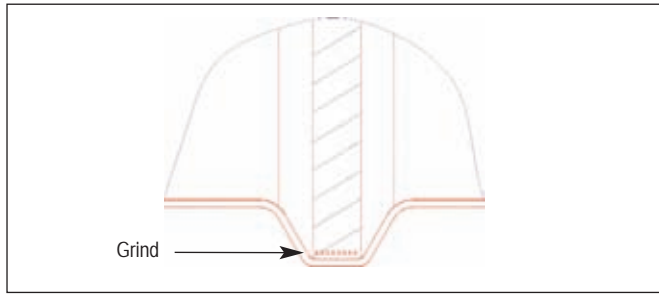

FIGURE 6-3
- 6.1.7. On the inside bottom section of the tank half, grind the bottom of the rib cavity inside the tank. (See FIGURE 6-3.)